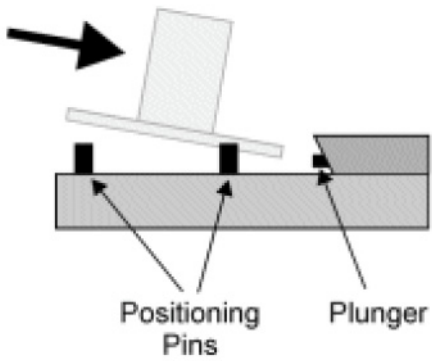

Figure 5-8: Tilting the cartridge for installation.
11. Tilt the cartridge at a 30-degree angle so it can be pushed towards the plunger at the back of the holder and still clear the front pins (Figure 5-8).